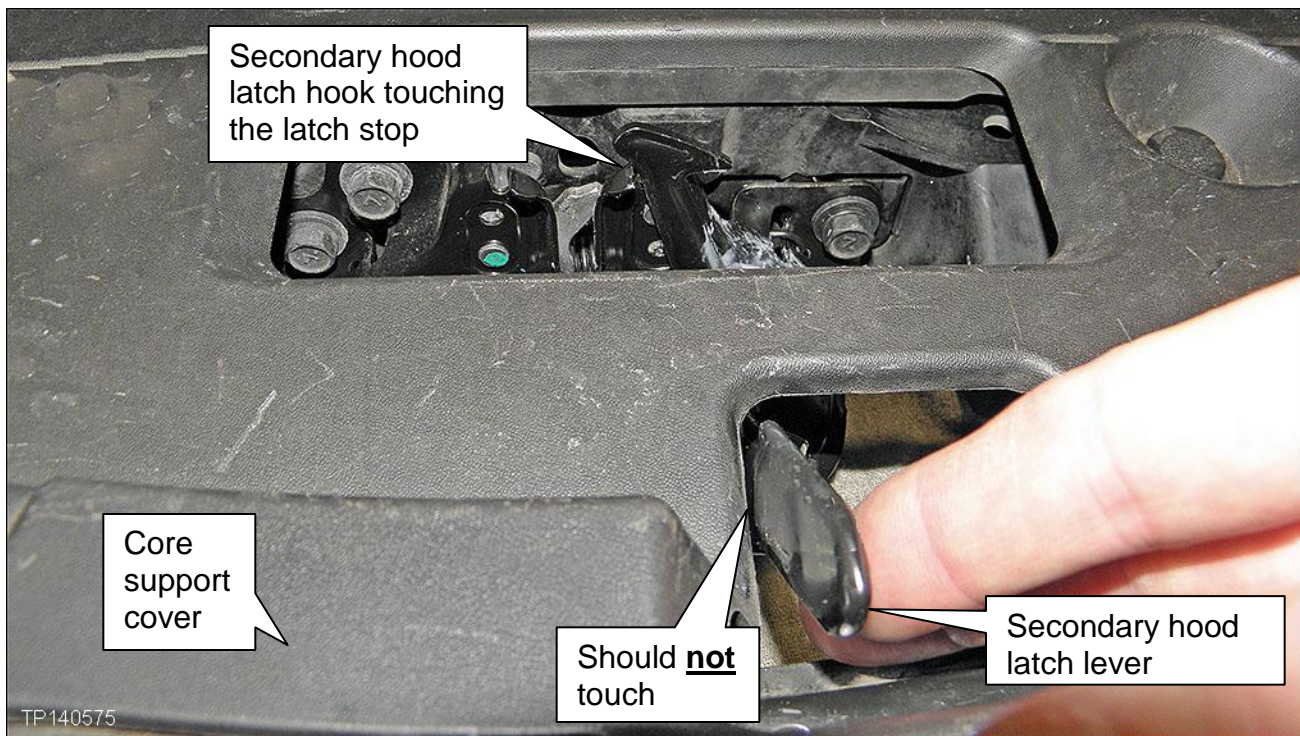

Figure 14
- a. Move the secondary hood latch lever all the way toward the passenger side (completely unlatched position) and hold it there (see Figure 14).